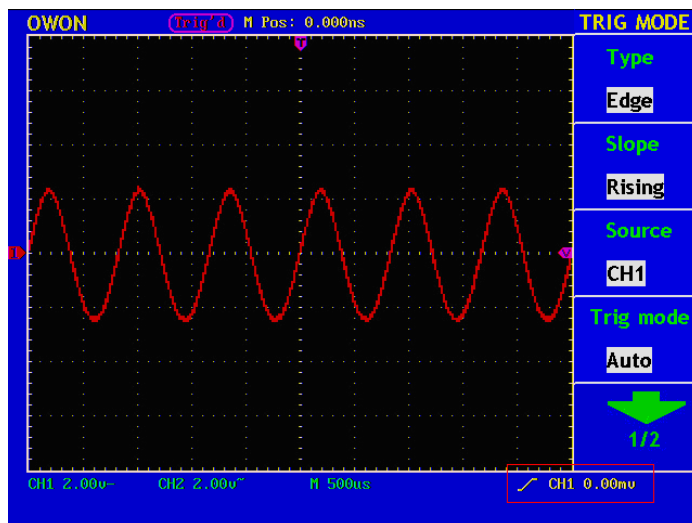

Fig. 39 Edge trigger (Rising Wave)
- 5、 Press "F4" to choose trigger mode as "Auto". Display as Fig.39